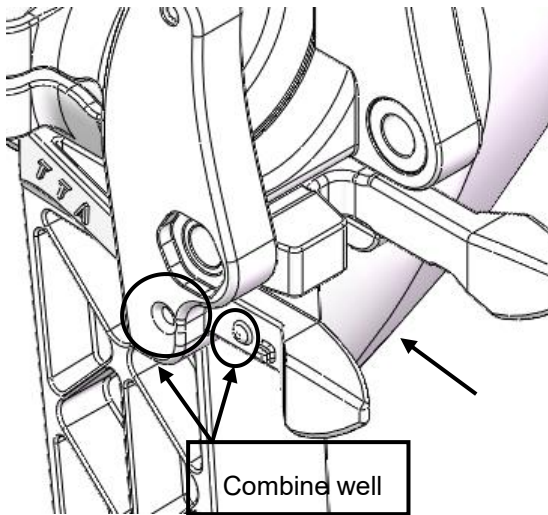

Figure 5
- 4) Slip the landing gear gently into the fillister mark 7. of fuselage as the “Mounting Direction” arrow of Figure5. Make the bulge mark 5. stuck into the fillister mark 8 and the part mark 6 get into the fillister mark 9 as the “Limit Direction” arrow to complete